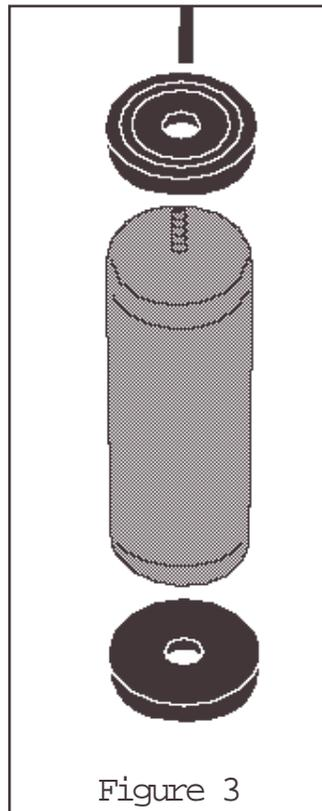

Figure 3
6. Install upper protector, then push cylinder to the top of the coil and insert the lower protector on top of lower spring seat (Figure 3).
Stability translates into safety and should be the priority, meaning the driver may need to sacrifice a perfectly level and comfortable ride. Stability issues include roll control, bounce, dive during braking and sponginess (fig. 3). Tuning out these problems usually requires an increase in pressure.